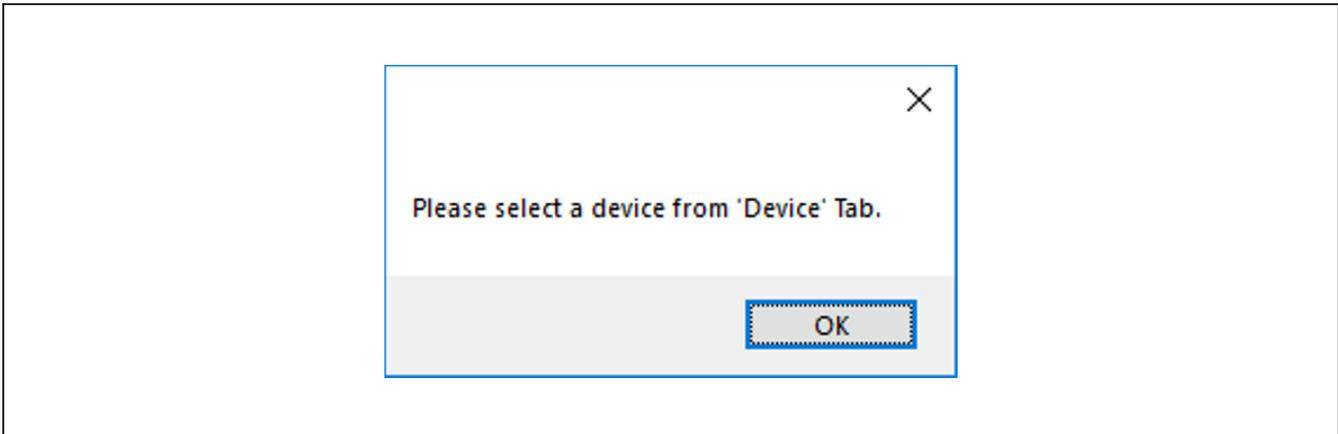

Figure 4. ISM Radios GUI Device Selection Reminder
- 6) The pop-up window (Figure 4) asks to select a device from the **Device** tab to get started; click **OK**.